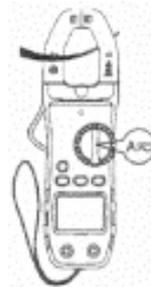

Fig.6
(1) Turn the rotary function switch to \overline{A} position. The meter is default at DC A measurement after power on. Press SELECT to switch between AC or DC measurement.
(2) When the meter is used in a strong magnetic field, the readings could be unstable or inaccurate. Press REL to clear to zero before measurement.
(3) Press the clamp gunlock to open the clamp jaw to get testing wire inserted in the middle and clipped completely. To ensure measurement accuracy, please check to ensure that the testing wire is placed in the middle of clamp jaw (fig.6).